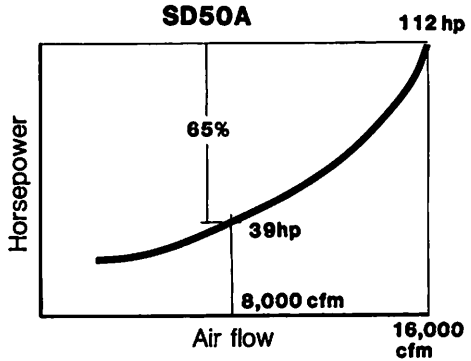

Fig. 15
- Adjustable traction motor blower air inlet guide vanes which reduce traction motor cooling air and, in turn, blower horsepower during periods of low traction motor current and temperature (Fig. 15)